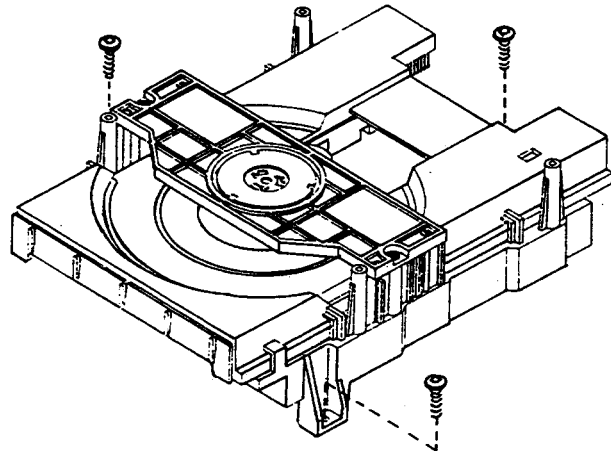

Figure 4
2. Remove 3 screws (See Figure 4).